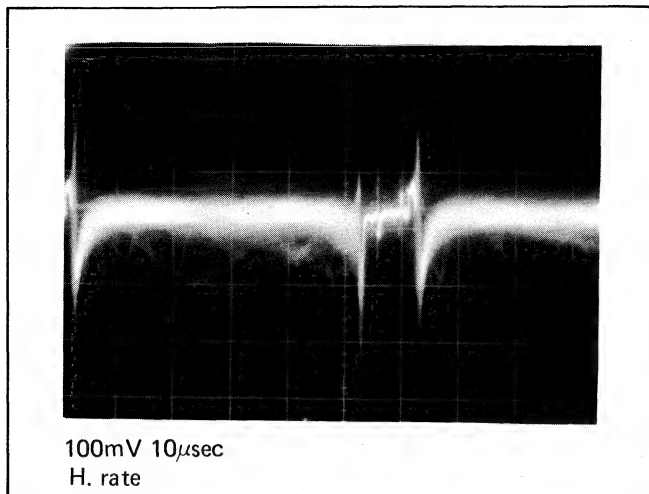

Fig. 32 Waveform of TP315
4. Then, alternately adjust VR613 and VR614 for the signal waveform to be flattest during the horizontal period as shown in Fig. 32.